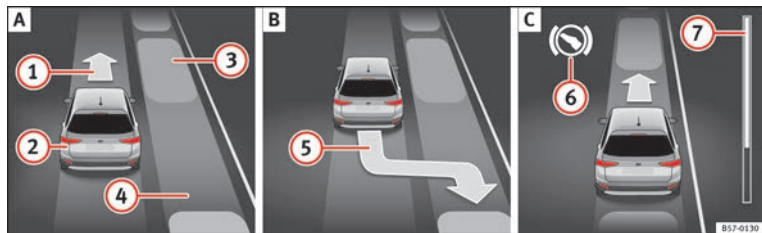
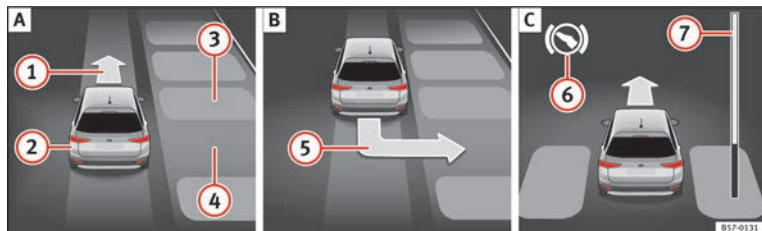

Fig. 203 On the instrument panel display: parallel parking. **A** Finding a parking space. **B** Parking position. **C** Manoeuvring.
Fig. 204 On the instrument panel display: perpendicular parking. **A** Finding a parking space. **B** Parking position. **C** Manoeuvring.
Key to **Fig. 203** and **Fig. 204**:
» **Fig. 203** ⑦ and » **Fig. 204** ⑦ on the screen of the instrument panel displays the relative distance to be covered. The greater the distance, the fuller the progress bar. When driving forward, the content of the progress bar decreases upwards, and when reversing, it decreases downwards.
2.	Look at the display on the instrument panel to see if the space has been detected as “appropriate” and if the correct position for parking has been reached » Fig. 203 B or » Fig. 204 B. The space is considered “appropriate” if the display on the instrument panel shows the message to park 5.
5.	Please note the following message: Active automatic steering. Watch out around you. While you keep watch around you, carefully start accelerating up to no more than 7 km/h (4 mph). During the parking manoeuvre, the system only takes charge of the steering. You, as the driver, have to accelerate, engage the clutch if necessary, change gears and brake. Reverse until the ParkPilot continuous signal is heard. OR: reverse until the instrument panel displays the message to go forwards » Fig. 203 A 1 or » Fig. 204 A 1. OR: reverse until the instrument panel displays the message Park Assist finished. The progress bar 7 indicates the distance to cover » page 236.
9.	Go forward until the ParkPilot continuous signal is heard. OR: go forward until the instrument panel display shows the message to reverse. The Park Assist system steers the vehicle forward and back until it centres it in the space » Fig. 203 C or » Fig. 204 C. For best results, wait at the end of each manoeuvre until the Park Assist system has finished turning the steering wheel.